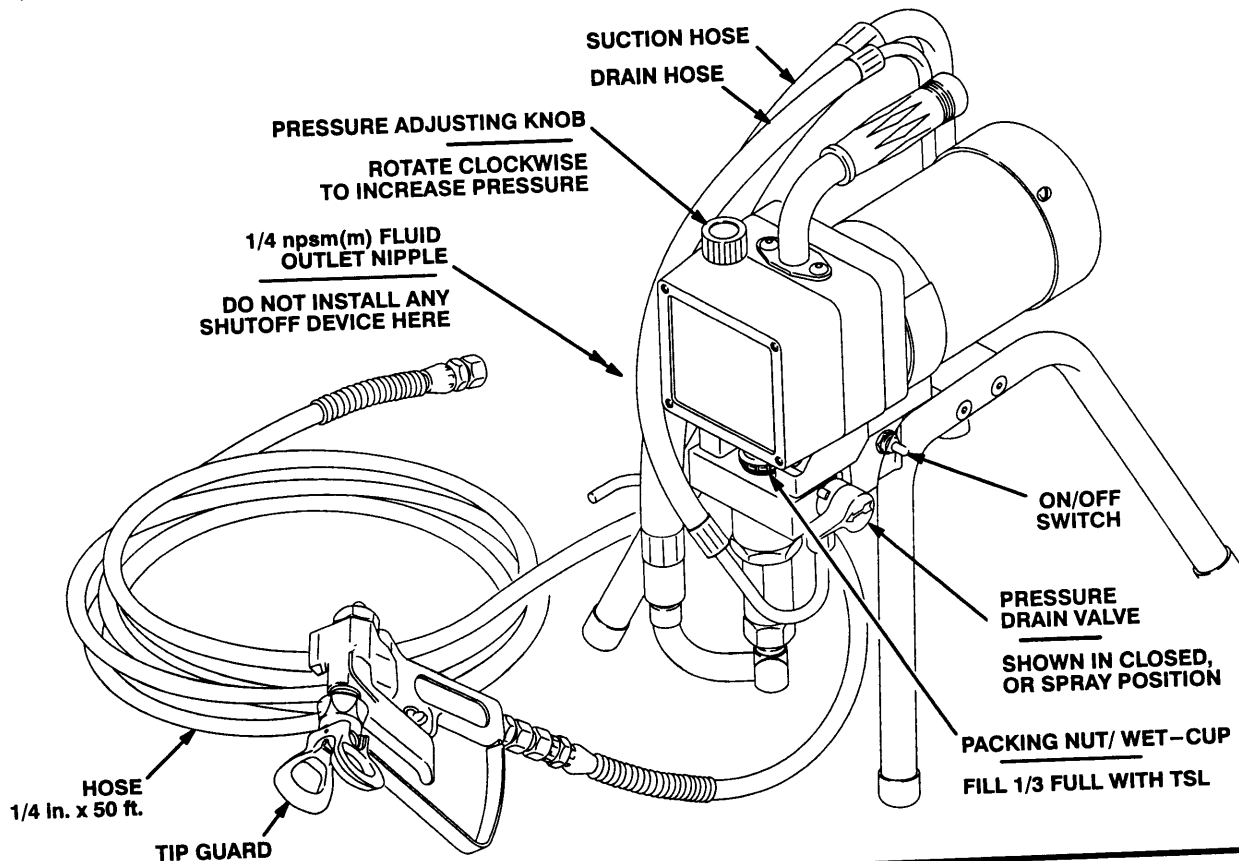

Fig 8-1
3. Never install any shutoff device between the pump and the hose. See Fig 8-1.